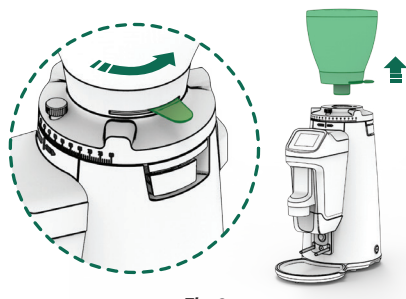

Fig. 2
12.3.2. Check that the shutter is in the closed position before removing the hopper from the grind regulator (7) (Fig. 2).